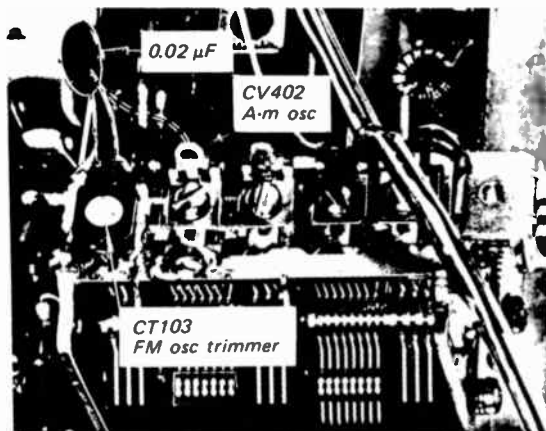

Fig. 3-2. Interruption of fm or a-m local oscillator
**Note:** Two methods of i-f discriminator alignment are available, sweep generator alignment and signal generator alignment. You can use either of them. In either case, the local oscillator should be killed. To stop the local oscillator's operation, remove the shield cover over the local oscillator capacitor, if necessary, and then shunt the oscillator capacitor with a  $0.02\mu\text{F}$  capacitor. See Fig. 3-2.
**Note:** To perform this alignment, the local oscillator should be killed. To do this, shunt the local oscillator capacitor CV402 with a 0.02 $\mu$ F ceramic capacitor as shown in Fig. 3-2.